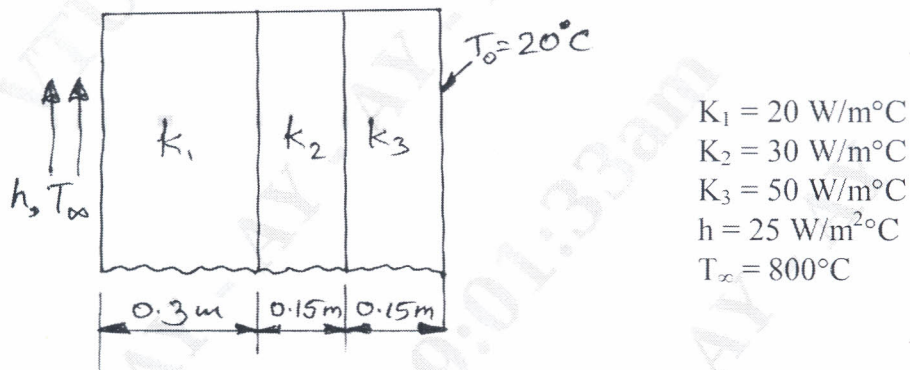

Fig.Q.8(b)
b. Solve for temperature distribution in the composite wall shown in the Fig.Q.8(b). Use penalty approach of handling boundary conditions. (12 Marks)